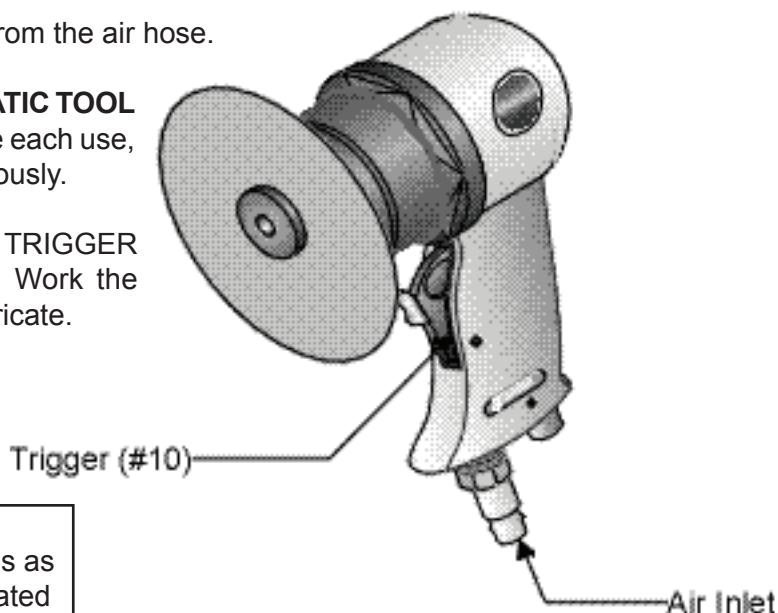

Figure 6 — Lubrication Points
Step 3: Apply a few drops of oil to the TRIGGER (10) as shown in Figure 6. Work the TRIGGER a few times to lubricate.